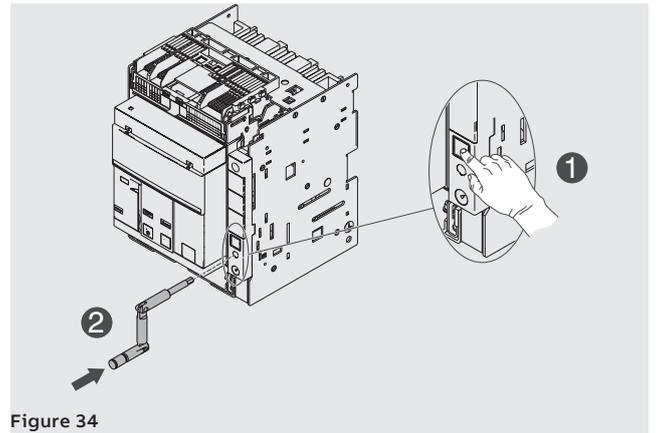

Figure 34
5. Press the lock pushbutton and fit the handle into the moving part. In this phase, the moving part will still be in the **DISCONNECT** position. See Figure 34.